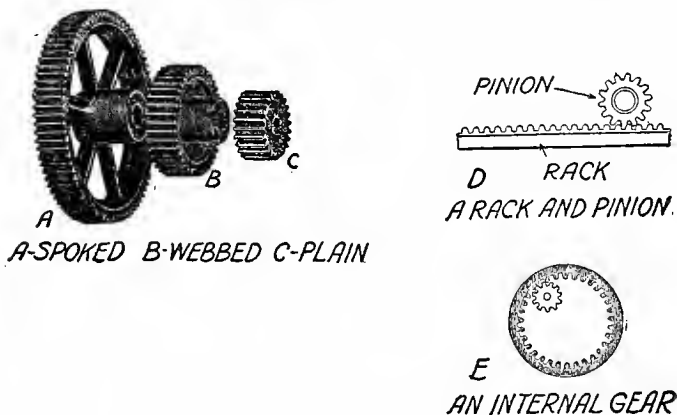

FIG. 38.—KINDS OF SPUR GEARS
and (3) the *plain* gear, all of which are shown at A, B and C in Fig. 38. A rack is a flat strip of metal with teeth cut on one side of it, so that a spur gear which has the same sized teeth will mesh with it, as shown at D.